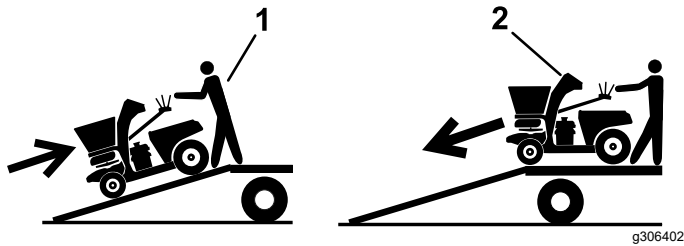

Figure 64
5. Back the machine up the ramp (Figure 64).